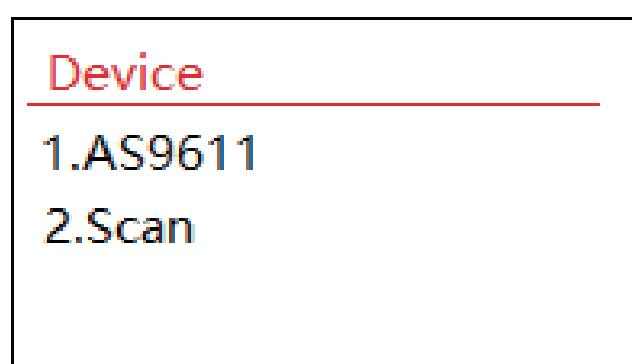

Fig. II.3.2
- 6) To match a new device, enter the device list to manually choose it. Refer to Fig. II.3.2. To search a new device, choose “Scan” and press the **O** button. To pair the device “ASxxxx”, choose it and press the **O** button.